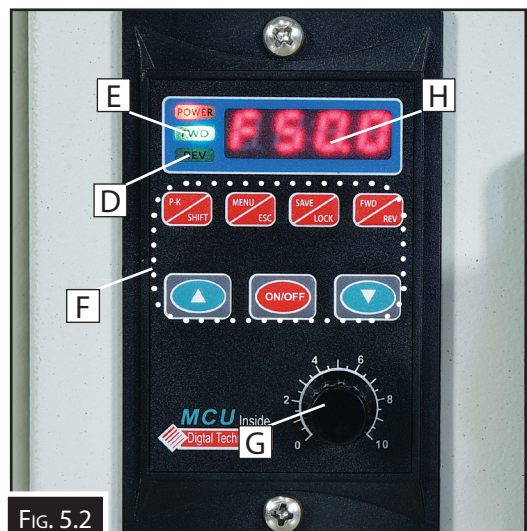

FIG. 5.2
- F. None of these buttons are used or need to be adjusted during normal operation of the machine. They are only used by service engineers to access the parameters for the AC inverter motor. (Fig. 5.2)